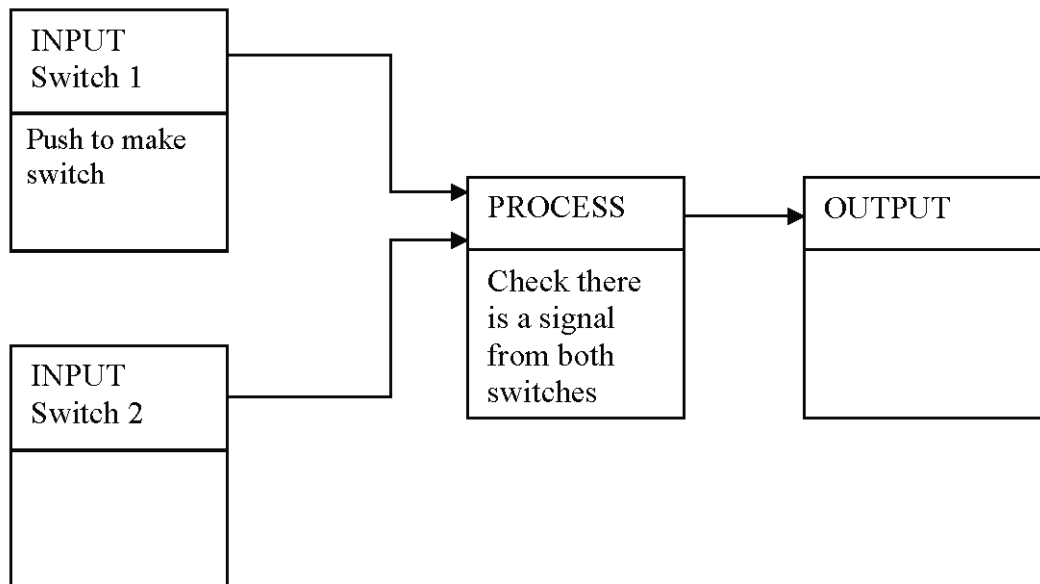

Figure 11
(ii) The system diagram, **Figure 11** shows a similar safety circuit to the one you have designed in part (i) of this question. It is used on a machine to ensure it will not start unless the guard is in position.
- 1 Name **one** suitable switch for Switch 2 and write your answer in the INPUT Switch 2 box of **Figure 11**.
- 2 State the output of the system and write your answer in the OUTPUT box of **Figure 11**.